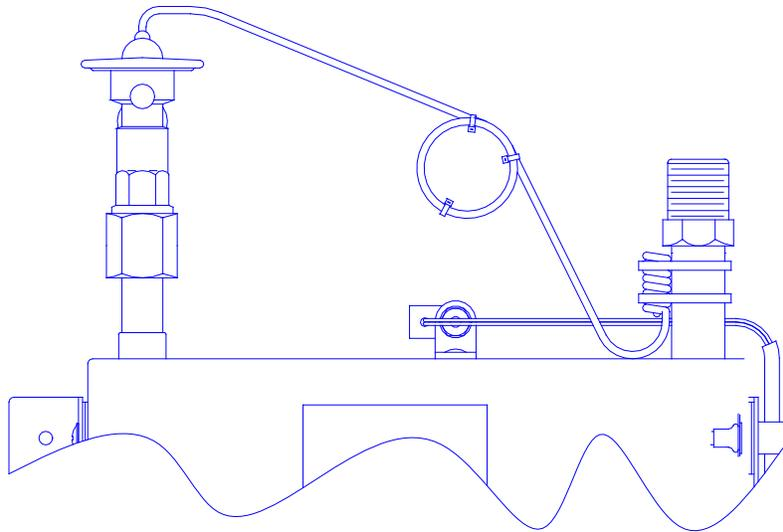

Figure 3. Correct expansion valve and sense bulb orientation
9. Install the thermal sense bulb such that it makes contact with the suction tube along its entire length with two or more cable ties as shown in Figure 3.